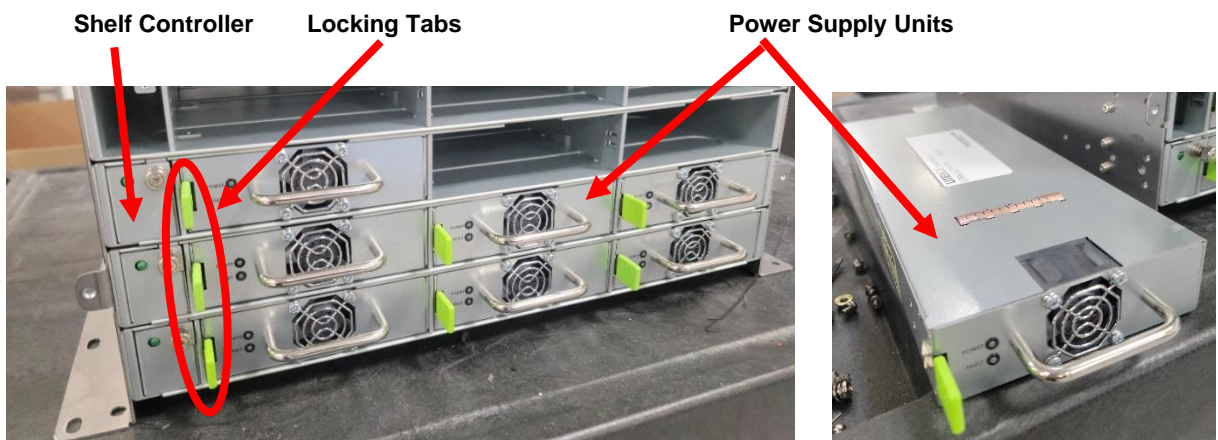

Figure 18 – Install Power Supply Units with Locking Tab sides closer to Shelf Controllers
5. Insert up to 18 power supply units (PSUs), 3 on each shelf (Figure 18), so that each PSU's locking tab side is closer to its shelf controller than the PSU's other side AND so each locking tab clicks into the locked position.